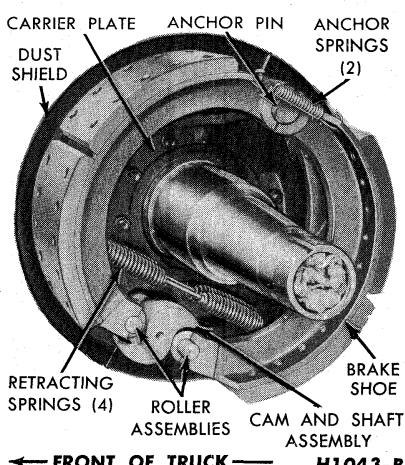

FIG. 16—Rear Brake Assembly
2. Remove the retracting springs and anchor springs, then remove the brake shoes and cam roller assemblies (Fig. 16).
5. Position the cam rollers and pins in the brake shoes, then place the brake shoes in position on the anchor pin and cam (Fig. 16).